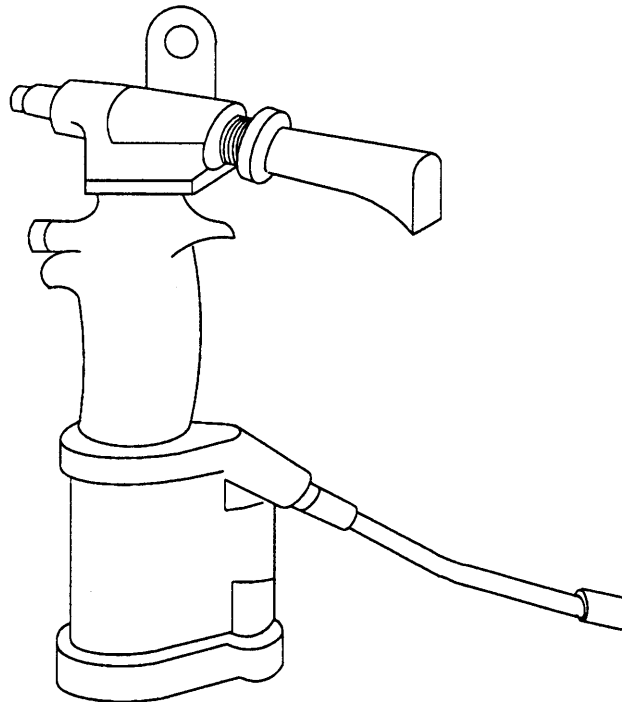

FIGURE 2 - POWER RIVETER
- 4.2.1 Power riveter, (e.g., TS.414.03.23 or Cherry G702). See Figure 2 for a general description of a power riveter.